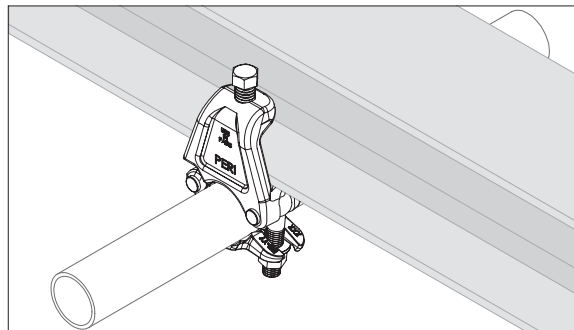

Fig. A10.10
Flange Couplings UEF (86) can be used on horizontal flange supports for suspended scaffolds or on vertical flange supports as scaffold anchors. (Fig. A10.10)